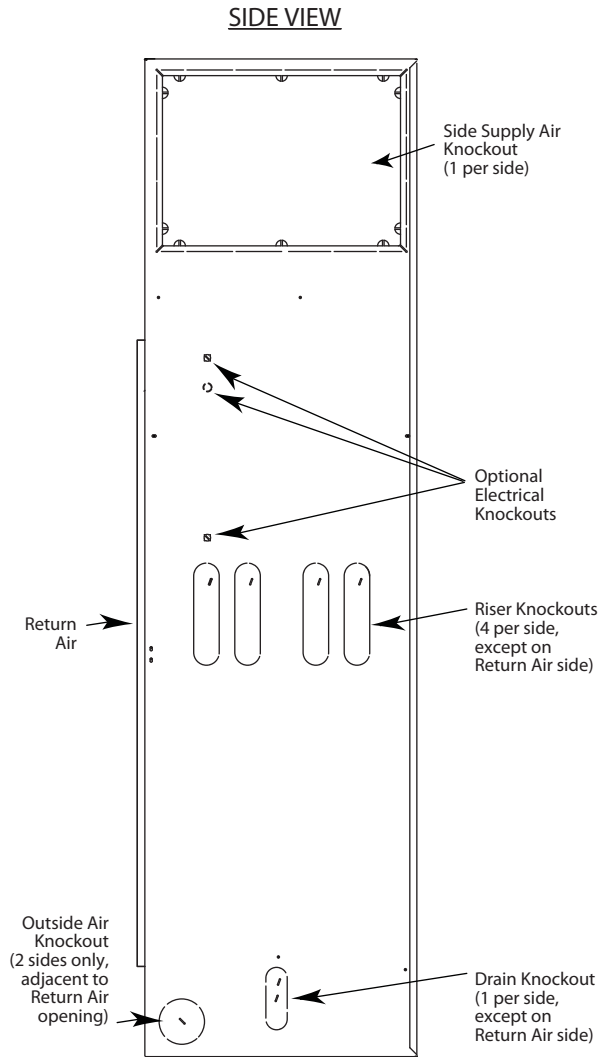

Figure 3A
1. Three sides of each Universal Modular unit have four Supply and Return riser knockouts along the center and one Drain knockout near the lower part of the unit (see Figure 3A). Identify whether your application uses a 2-pipe or 4-pipe configuration.
1. Each side of the unit has one supply air knockout as well as a supply air knockout on the top of the unit (see Figures 3A and 3B).